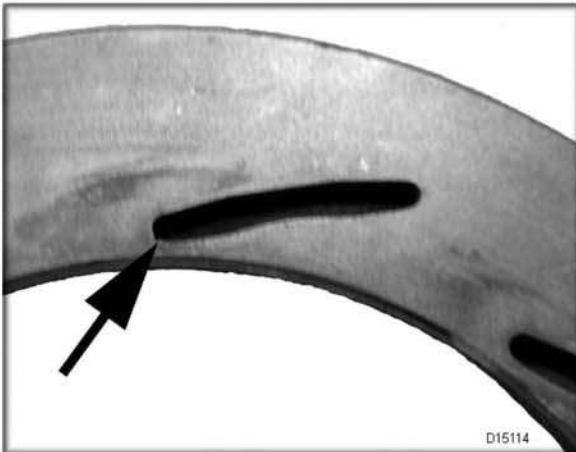

Figure 5 Damaged unison ring
11. Inspect the unison ring for cracks, excessive wear, and signs of corrosion. If any of these conditions are found the turbocharger cannot be cleaned (Figure 5).